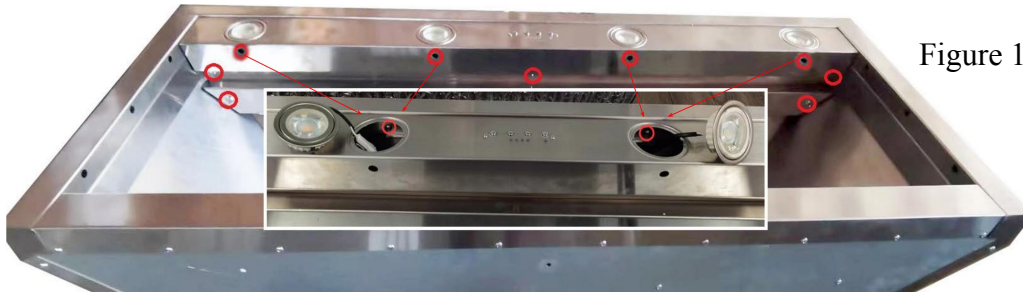

Figure 1
4. Remove all screws holding the light panel. See Figure 1.